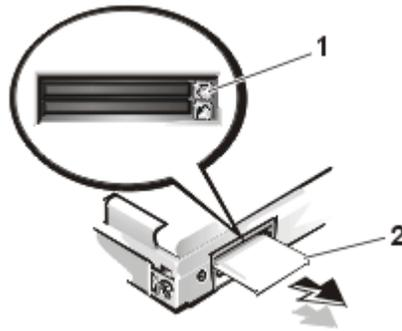

Figure 4. PC Card Removal
6. Remove PC Cards (see Figure 4).